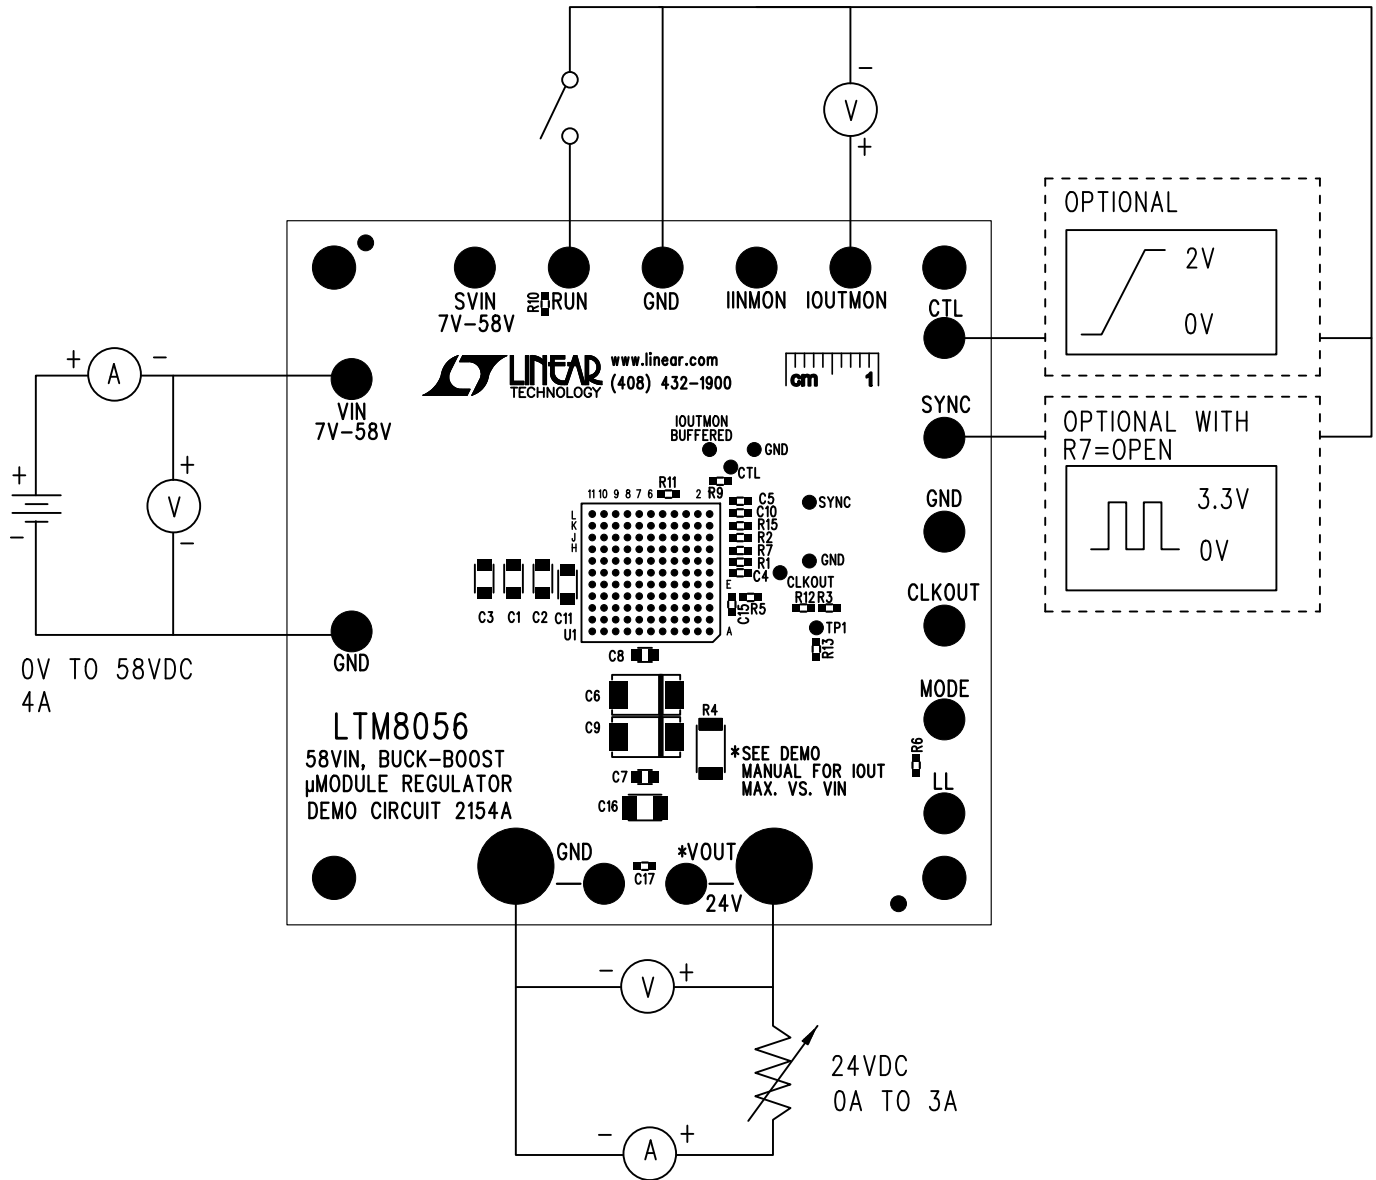
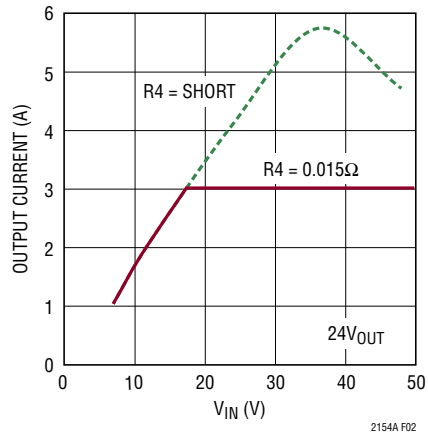

Figure 1. Proper Measurement Equipment Setup
Figure 2. Maximum Output Current vs Input Voltage for $V_{OUT} = 24V$
To use DC2154A to evaluate the performance of the LTM8056, refer to Figure 1 for the proper measurement equipment setup, Figure 2 for the maximum output current versus input voltage and then follow the procedure below:
1. Connect the RUN terminal to ground with a clip-on lead. Connect the power supply (with power off), load, and meters as shown in Figure 1.